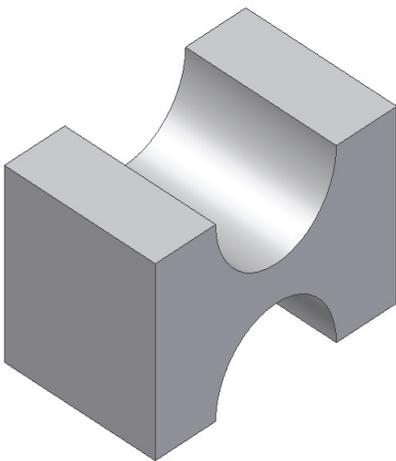
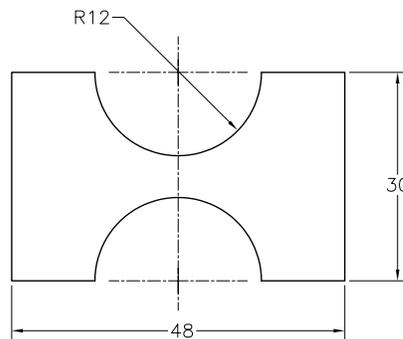

Figure 2-70 Model for Tutorial 3
Figure 2-71 Sketch for Tutorial 3
In this tutorial, you will draw the sketch for the model shown in Figure 2-70. The sketch of the model is shown in Figure 2-71. Do not dimension the sketch as the dimensions are given only for reference. **(Expected time: 30 min)**
- b. Draw the sketch by using the **Arc** and **Line** tools, refer to Figure 2-71.